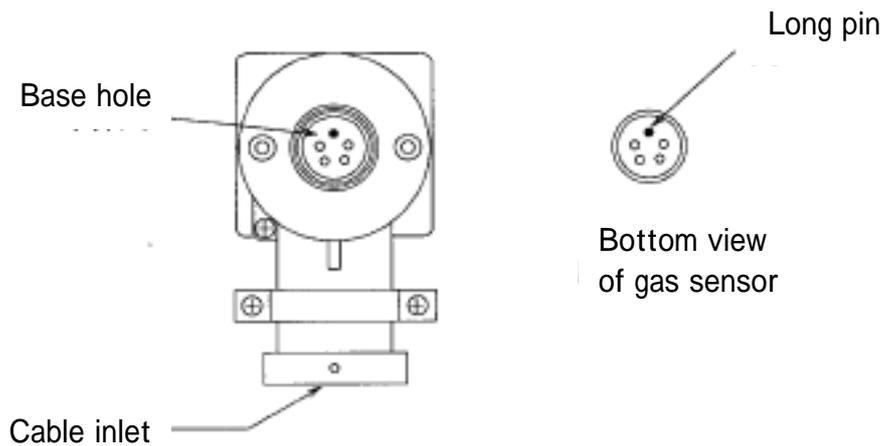

Fig. 11
#### 4 - 3 . **Replacing the sensor** (See Fig. 11)
- (1) Turn off the indicator/alarm unit.
- (2) Loosen 2 pcs of hexagon socket head screws for sensor guard and remove the sensor guard (Hexagon socket head screws for sensor guard are not dropped even if they are loosened)
- (3) Pinch the upper part of defective sensor (sintered metal) and pull it from the detector. At this time, the o-ring is also removed with the sensor (If the O-ring is not damaged, it can be reused).
- (4) There are 5 pins on the gas sensor and one of them is longer than the other pins. Insert this long pin into the socket of base hole slightly as in fig. 11. The sensor can be inserted deeply by pushing it.
- (5) Insert the O-ring removed in step (3) or new O-ring into the ditch between the sensor and base hole correctly.
- (6) Place the sensor guard onto the sensor and tighten it with 2 hexagon socket head screws.
- (7) After replacing the sensor, turn on the indicator/alarm unit, check the sensor voltage (bridge voltage to the sensor) or electric current in indicator/alarm unit. (Refer to the instruction manual for the indicator/alarm unit).
- (8) After switching on the indicator/alarm unit, please wait for at least one hour to warm-up. Then, try to do the zero/spam adjustment. The way of zero/spam adjustment is listed [4 - 2].